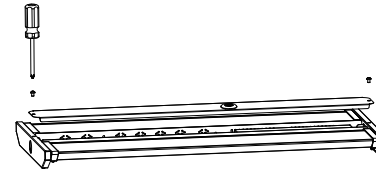

Figure 9
- Step1. Open the face cover with screwdriver; (Figure 9)